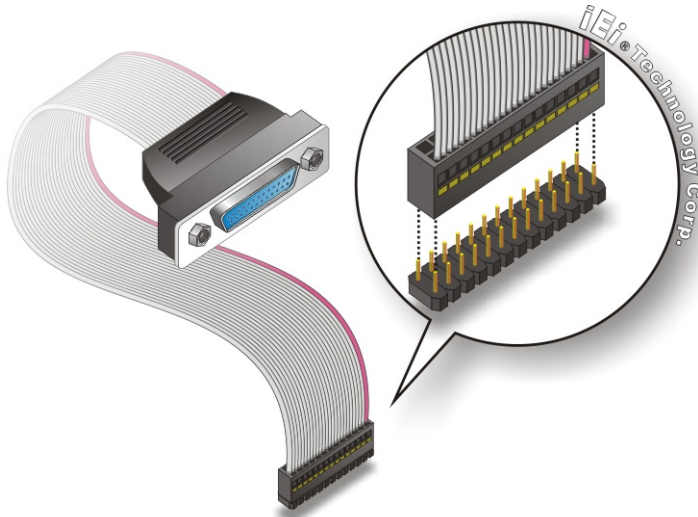

Figure 5-21: LPT Cable Connection
Step 2: **Align the connectors.** Correctly align pin 1 on the cable connector with pin 1 on the WAFER-9102 LPT box-header connector. See Figure 5-21.
Step 3: **Insert the cable connectors** Once the cable connector is properly aligned with the 26-pin box-header connector on the WAFER-9102, connect the cable connector to the on-board connector. See **Figure 5-21**.
Step 2: Align the connectors. Correctly align pin 1 on the cable connector with pin 1 on the WAFER-9102 LPT box-header connector. See Figure 5-21.
Step 3: Insert the cable connectors Once the cable connector is properly aligned with the 26-pin box-header connector on the WAFER-9102, connect the cable connector to the on-board connector. See **Figure 5-21**.